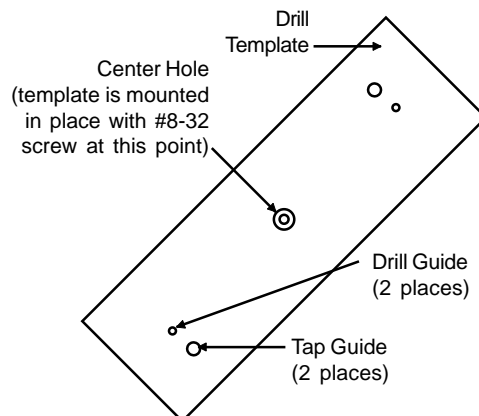

Figure 4-7. Drill and Tap Template
2. See Figure 4-7. Starting with Microcell A's location, fasten the drill template to the template mounting hole through the center hole, using the captive #8-32 socket head cap screw. Use a level to ensure correct orientation (45° angle to the horizontal).